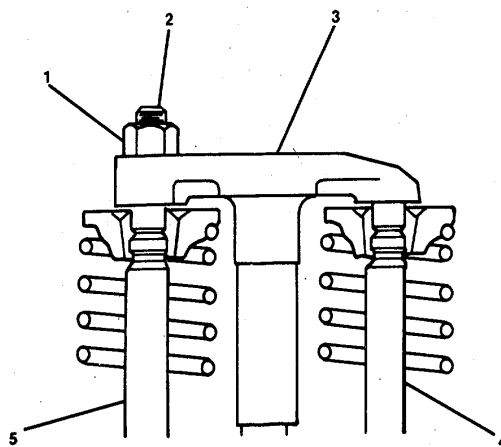

FIGURE 2-44. Crosshead.
- (a) With the "A" valve set mark aligned with the pointer on the gear cover and both valves closed on cylinder No. 5, loosen the crosshead adjusting screw locknuts (1, FIGURE 2-44) on the intake and the exhaust valve crossheads for cylinder No. 5.